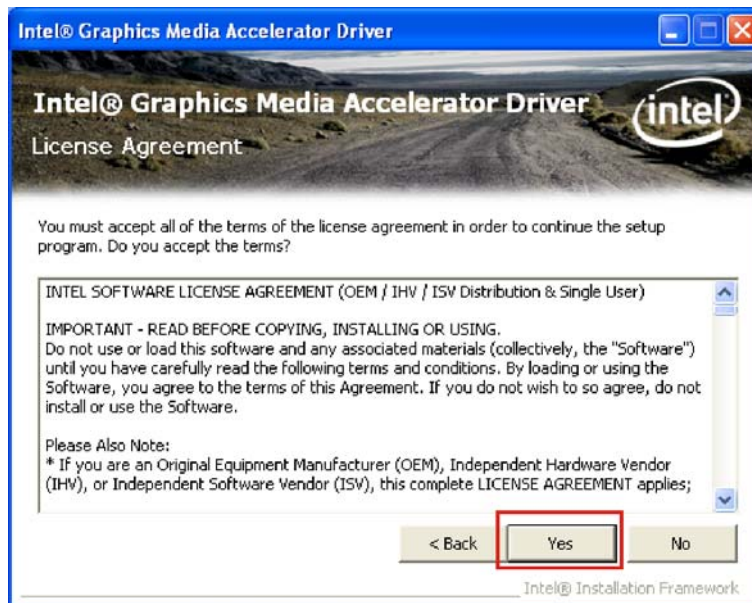

Figure 6-12: VGA Driver License Agreement
Step 8: The license agreement in Figure 6-12 appears.